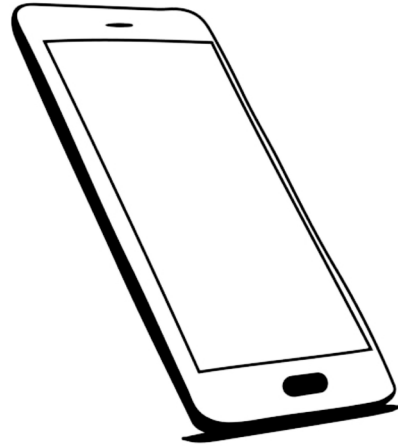

Figure 3
**Figure 3** shows a mobile phone. A holder is required for the mobile phone to keep it on a table.